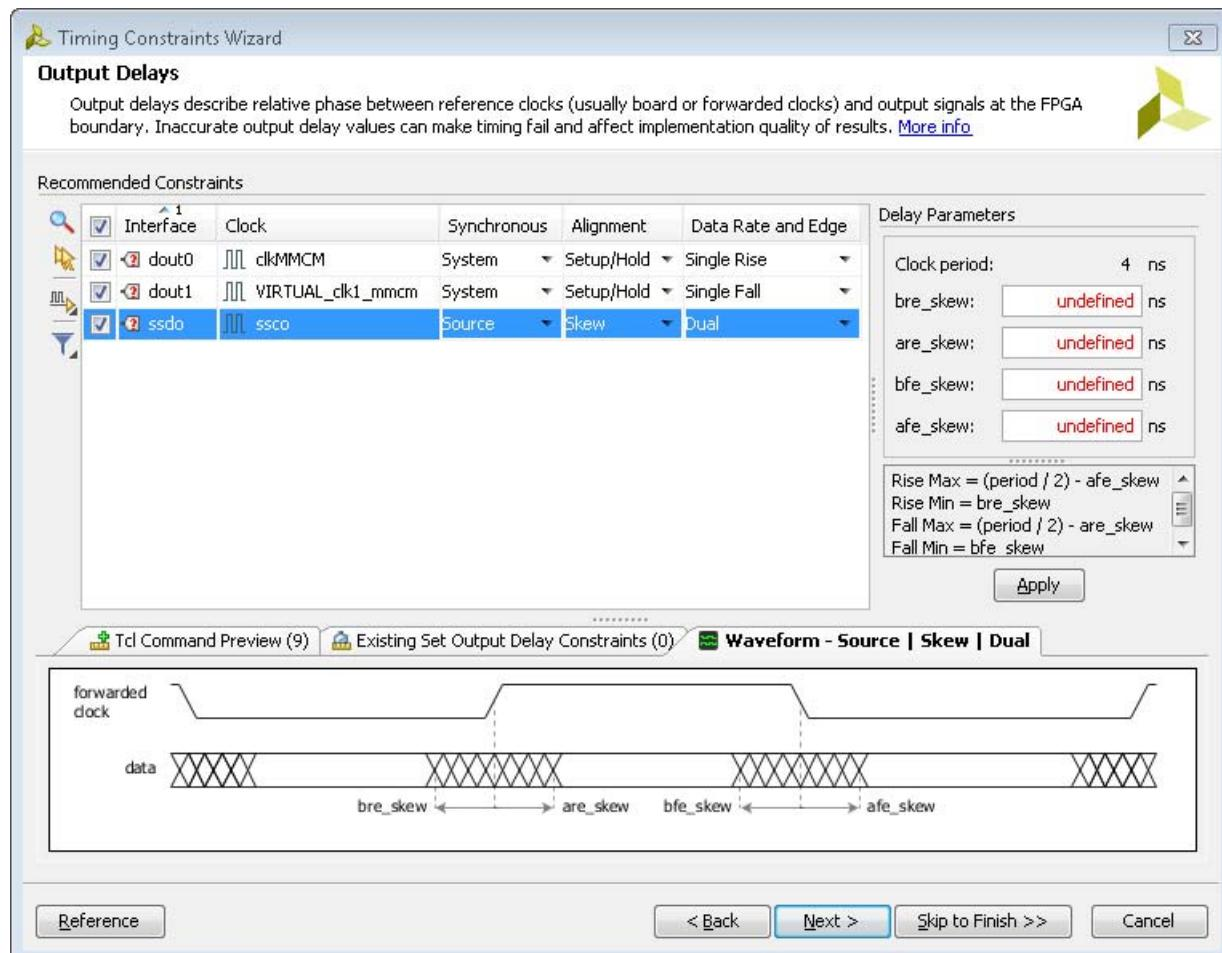

Figure 2-27: Recommended Source Synchronous Output Path Delay Constraint with a Forwarded Clock
- Figure 2-27 shows the corresponding constraints in the wizard.